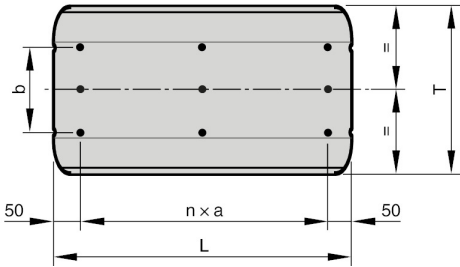

Fig. 25: Position of the screws to fix the splitters
- Use, for example, self-drilling screws (Fig. 25), at least 4.2 x 13 (DIN 7504), to fix the splitters to a sheet metal duct.
- Recommended fixing points and distances for screw fixing. Screw-fix the splitters on both L sides. For intermediate lengths L, use the number of screws (n) for the next length and position them in the middle according to Fig. 25.